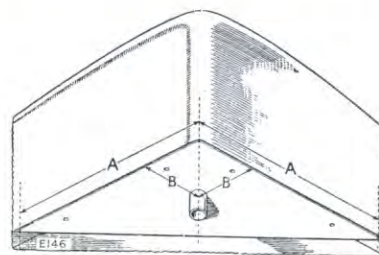

Fig. 2—Fitting corner plate to bottom front corners of seat cushion.
- Cut two triangular corner plates, using 16 SWG (1,6 mm) steel. See Fig. 2.
- Drill four .204 in. (5 mm) diameter holes (drill No 6) and one $\frac{3}{16}$ in. (8,5 mm) diameter hole as shown at Fig. 2.